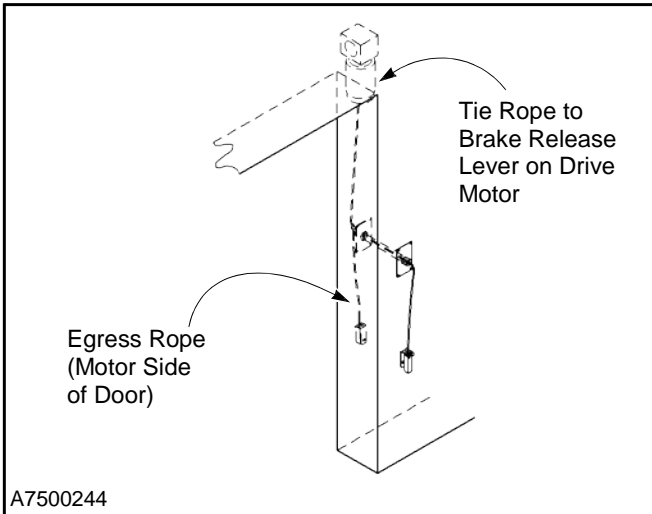

Figure 37
1. Tie one end of the rope to the eyelet at the end of the electric brake release lever located on the side of the drive motor. (See Figure 37.)